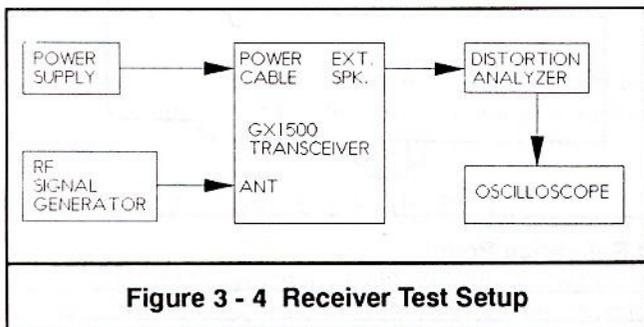

Figure 3 - 4 Receiver Test Setup
1. Connect the test equipment as shown in Figure 3 - 4, and select the center frequency.